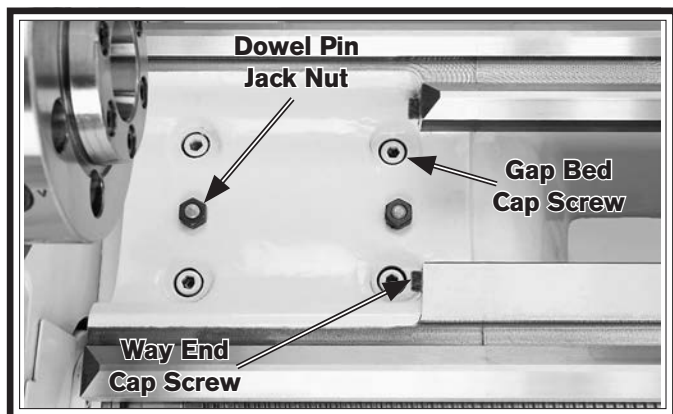

Figure 147. Fasteners holding gap in place.
1. Remove the four gap-bed cap screws, shown in **Figure 147**.